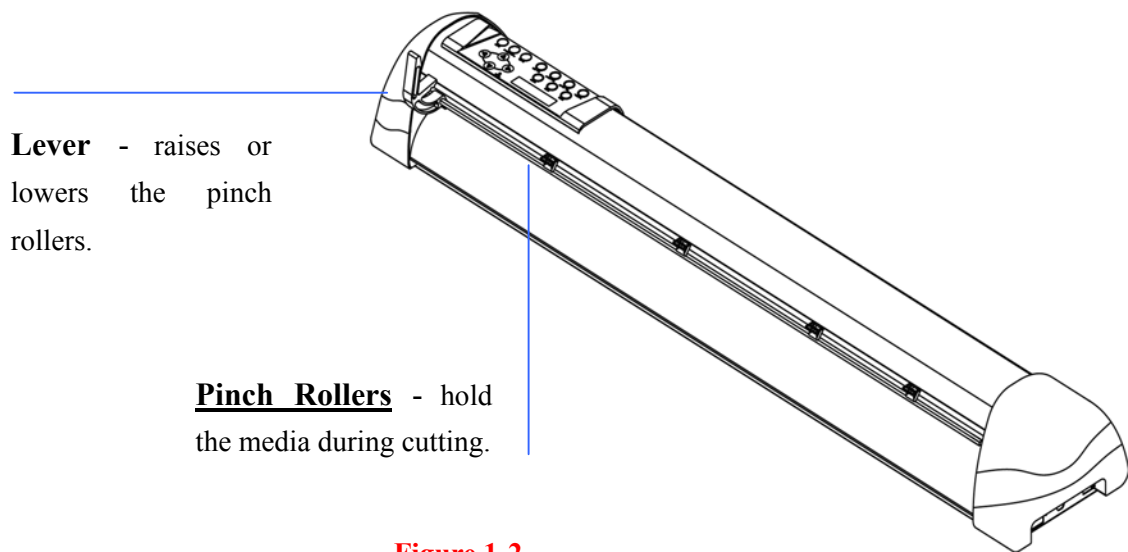

Figure 1-2
1.3 Back View of Jaguar (Figure 1-2)